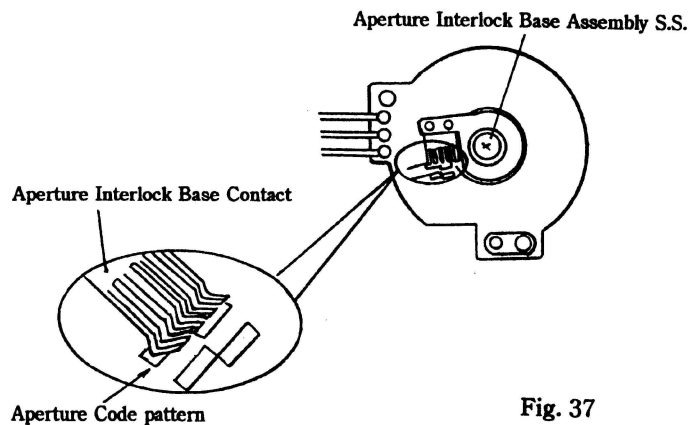

Fig. 37
- 5) Position the Aperture Interlock Base Contact of the Aperture Code Ass'y at the second piece of the Aperture Code pattern and tighten up the Aperture Interlock Base Assembly Setscrews (66001050). (See Fig. 37)